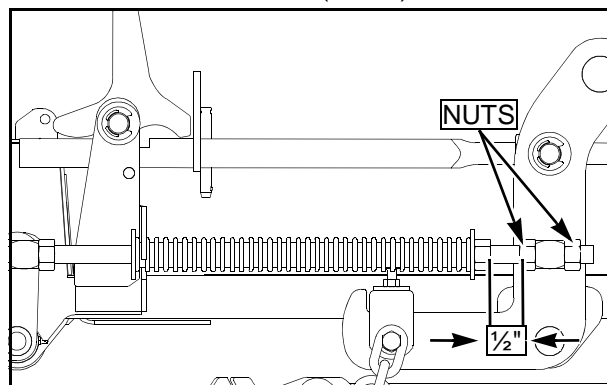

FIG. 7
24. Compress the deck lift assist spring so that there is 1/2" of space between the front nut on the spring, and the rear nut on the deck lift block. (FIG. 7).